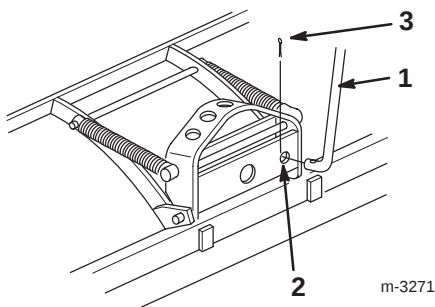

Figure 3
4. Insert the end of the control rod without the welded washer through the 1/2-inch hole in the bottom plate of the channel (Fig. 3).
5. Insert a cotter pin (1/8 x 1 inch) through the hole in the rod and bend the ends of the pin (Fig. 3).